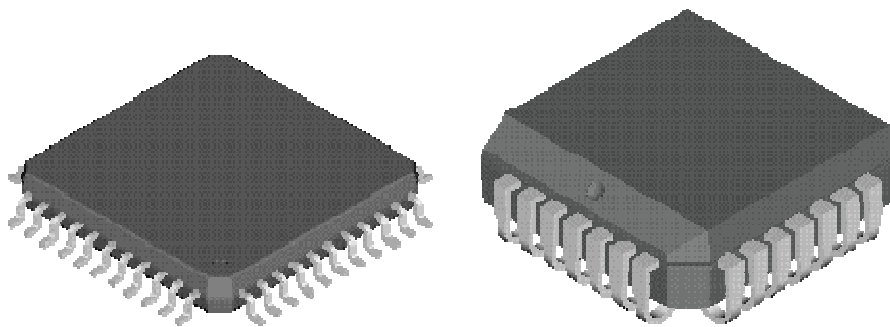

Figure 3: PQFP (Plastic Quad Flat Pack) & PLCC (Plastic Leaded Chip Carrier)
- The Quad Surface Mount Family is comprised of packages with larger bodies and higher lead counts. The PQFP which stands for Plastic Quad Flat Package is shown in Figure 3. The PQFP has a large body and high lead counts with leads placed on all four sides of the package. This is a very versatile and scalable package whose lead counts can be modified depending on the needs of the chip and package. The Quad Surface Mount family also includes the PLCC (Plastic Leaded Chip Carrier) as shown in Figure 3.